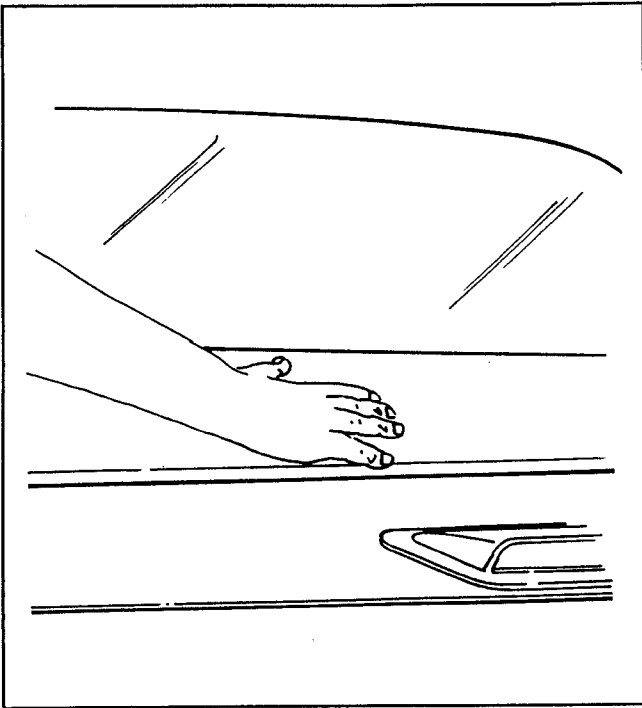

Figure 23. Slam 5-Bow to Stowage Cover
8. Slam the 5-bow to the stowage panel (Fig. 23).